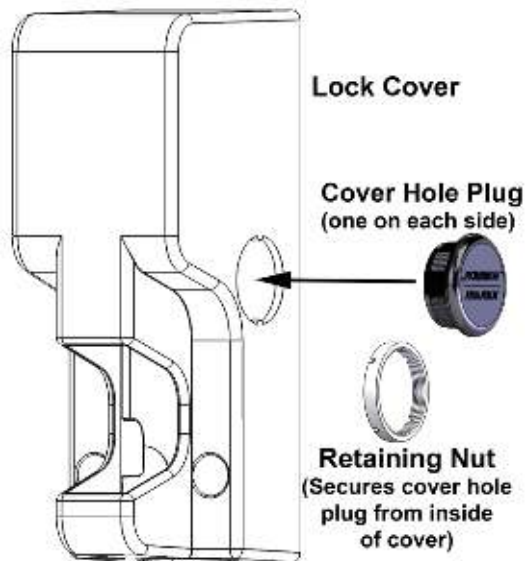

Figure 6. Cover Hole Plug and Retaining Nut
3. INSTALL the two cover hole plugs (provided) through both sides of the cover (see Figure 6, Cover Hole Plug and Retaining Nut”).
4. SECURE the cover hole plugs in place using the retaining nuts and provided cylinder nut tool (see Figure 6, “Cover Hole Plug and Retaining Nut”).